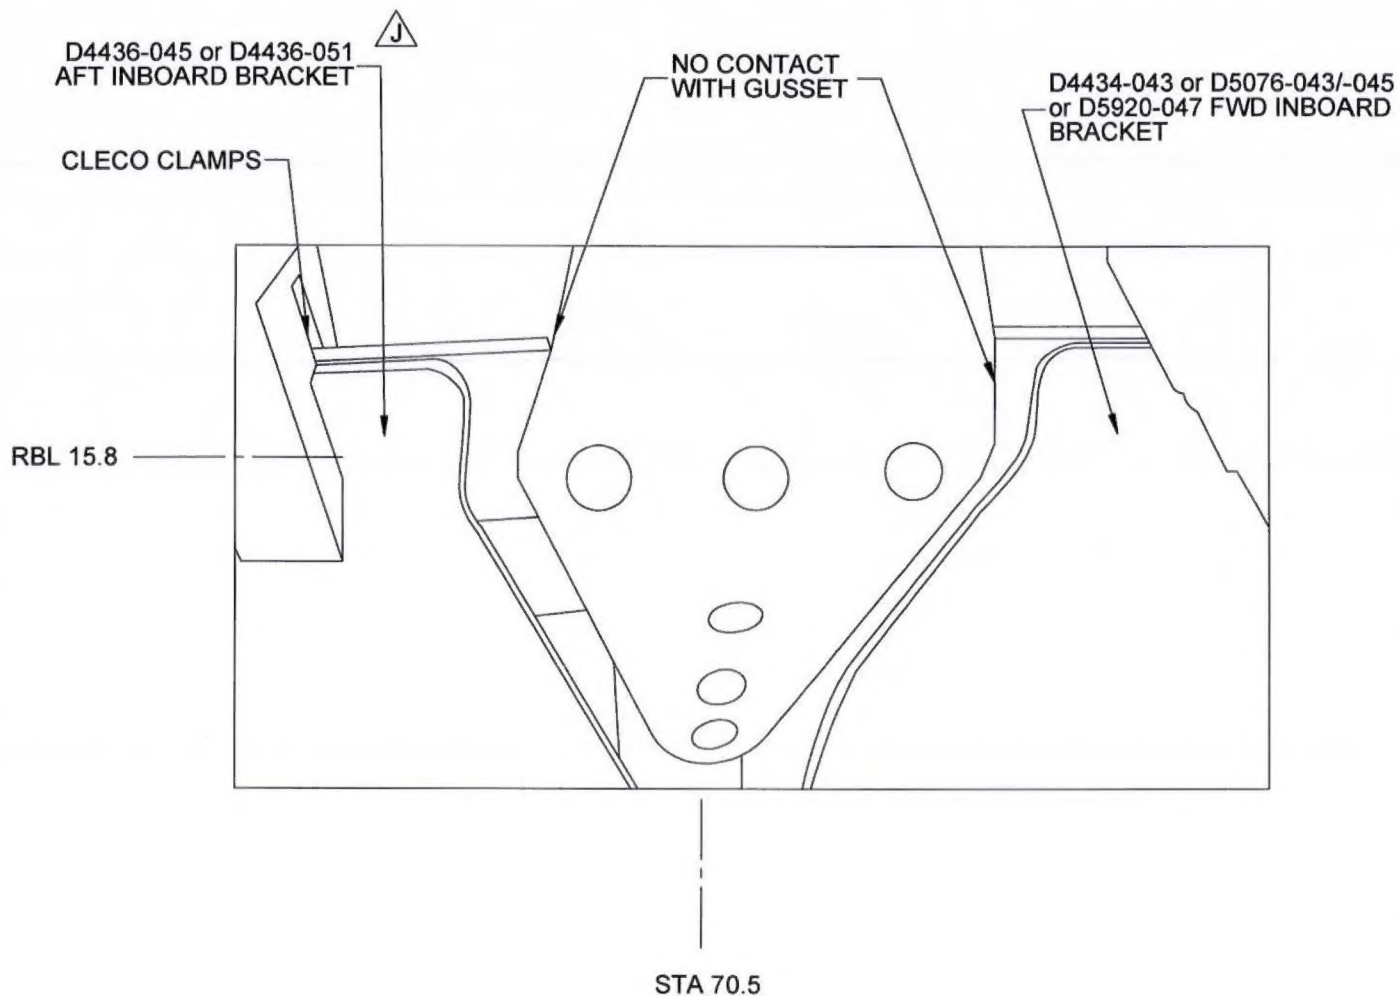

**Figure 4. D4436-043/-049 & D4435-043/-047 Brackets Installation** ⚠
- Confirm that the D4436-043/-049 Aft Outboard Bracket and beam angle are parallel as shown in Figure 4.